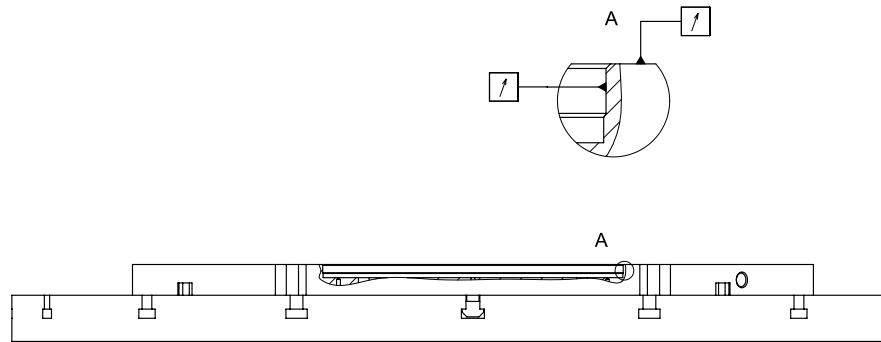

Fig. 3-3: Checking concentricity and axial run-out of the base plate
- Step 8** Check the concentricity and the axial run-out of the base plate. Allowed is 0.05 mm. The measurement is taken from the plain back of the base plate and from the plane surface around the plain back (see Fig. 3-3).
- Step 9** Lift the clean chuck (4) (hanging from the eyebolts) carefully and slowly over the base plate (7) by using the hoist.
- Step 10** Lower the chuck (4) onto the base plate (7). Hereby the chuck (5) gets aligned by its plain back and a fitting T-nut (6).
- Step 11** Bolt together the base plate (7) and the chuck (4) by crosswise tightening the inner and outer fastening screws (2) with a torque wrench.